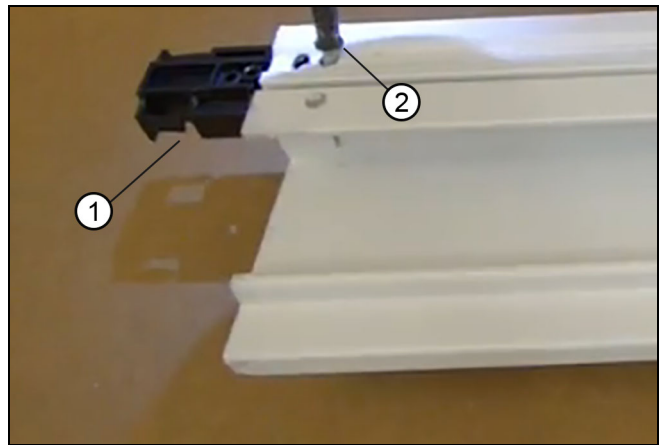

Figure 21
3. Loosely fasten the frame cladding splice key to one side of the cladding. See Figure 21.